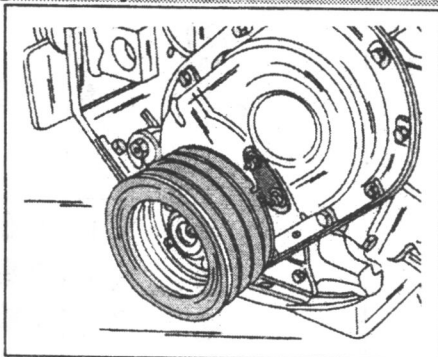

Fig. 1.60. — The notch in the crankshaft pulley must be opposite the pointer on the timing plate before installation of the distributor.
- Adjust the initial setting of the distributor. First rotate the crankshaft until the notch in the pulley is in line with the pointer on the timing plate, as shown in Fig. 1.60. Check the position of the driver for the distributor shaft. The larger offset of the drive dog must face towards the rear of the engine when the piston of No. 1 cylinder is at top dead